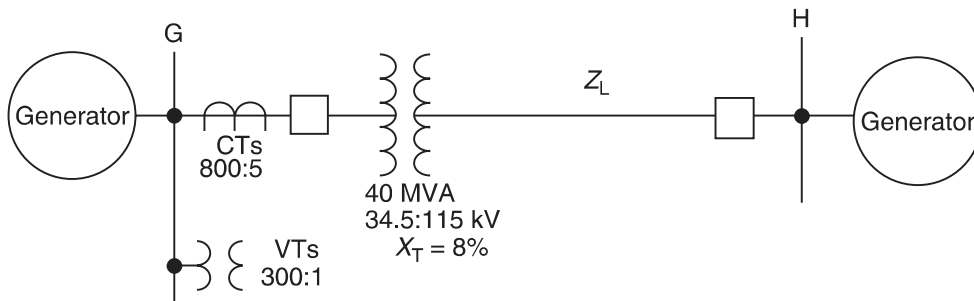

FIGURE P12.9
12.9 The 40 MVA transformer bank (Figure P12.9) has tap changing under load (TCUL) with low voltage $\pm 10\%$ taps. The reactances at the high-, mid-, and low-voltage taps are 7.6% at 38 kV, 8% at 34.5 kV, and 8.5% at 31 kV respectively. This bank is connected directly to a 115 kV transmission line without a high-side breaker. There are no 115 kV voltage or current transformers available at G. To provide phase distance line protection, the relays must be set to